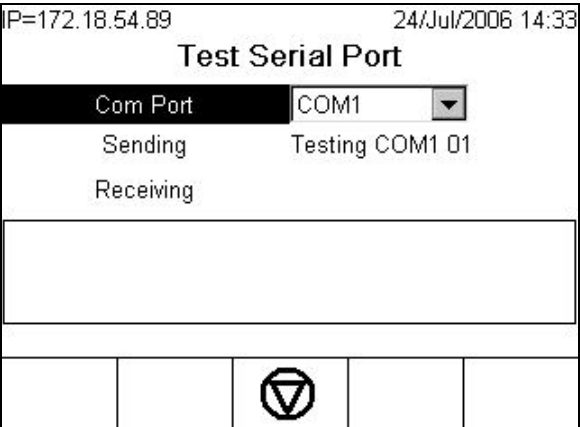

Figure 3-24: Serial Test Screen
- Press the START softkey  and a data string is output repeatedly approximately once every 3 seconds (Figure 3-24). The data is: [Testing COMx: nn] where “x” is the COM port and “nn” is an incrementing value beginning at 00 and continuing to 99. Each transmission increments this number by one.